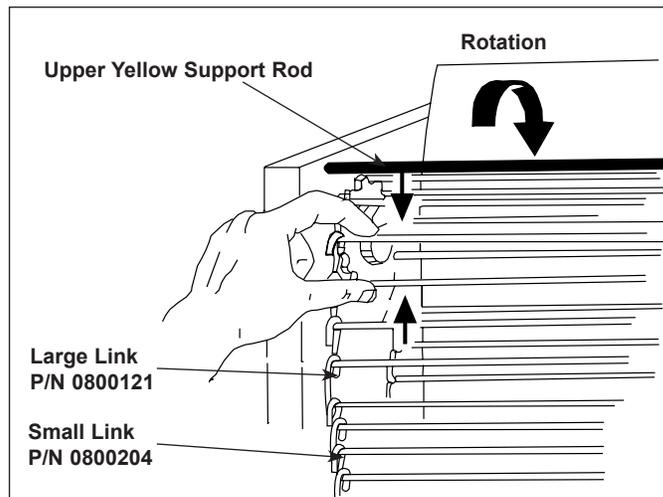

Figure 8. Removing Conveyor Belt
4. Disconnect the conveyor belt by squeezing any two links together and unhooking both ends of one link (Figure 8). A needle-nose pliers may be required. Remove conveyor belt.
2. Place replacement conveyor belt on top sprockets. Check for correct positioning (Figure 8).
Conveyor belts installed incorrectly.	Install conveyor belt to match diagram in Fig. 8 (page 11). Be sure that ends of the hooks are facing down.
Conveyor belts installed incorrectly	Install conveyor belt to match diagram in Fig. 8 (page 11). Be sure that ends of the hooks are facing down.
Conveyor belts installed incorrectly.	Install conveyor belt to match diagram in Fig. 8 (page 10). Be sure that ends of the hooks are facing down.